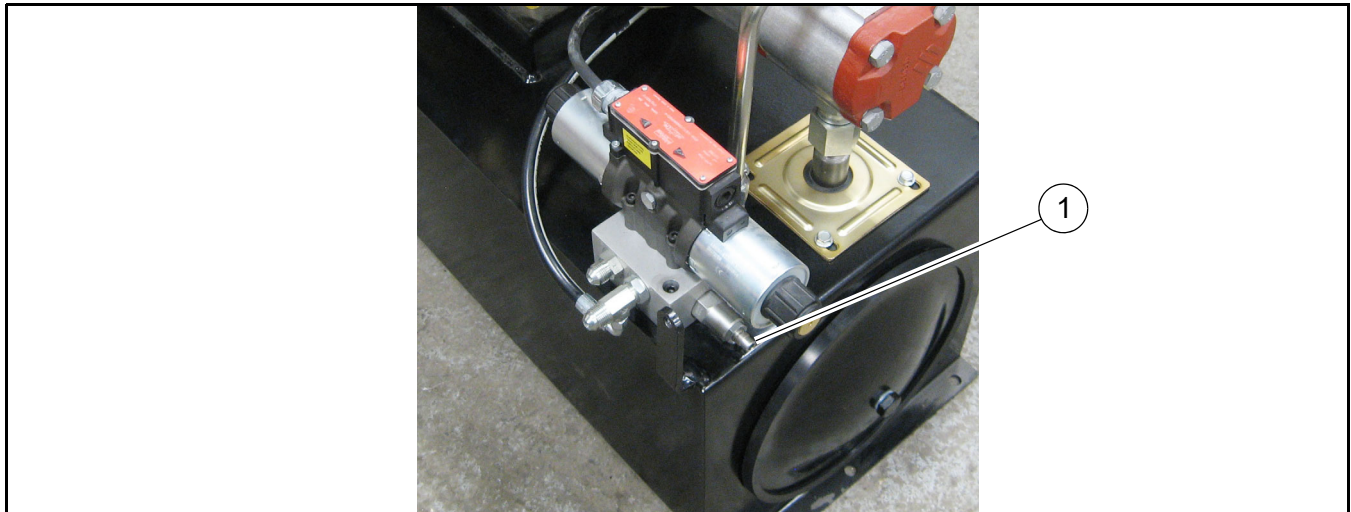

Figure 35
8. Loosen relief valve lock nut (**Figure 35, 1**) and turn relief clock-wise to raise or counter-clockwise to lower as required.